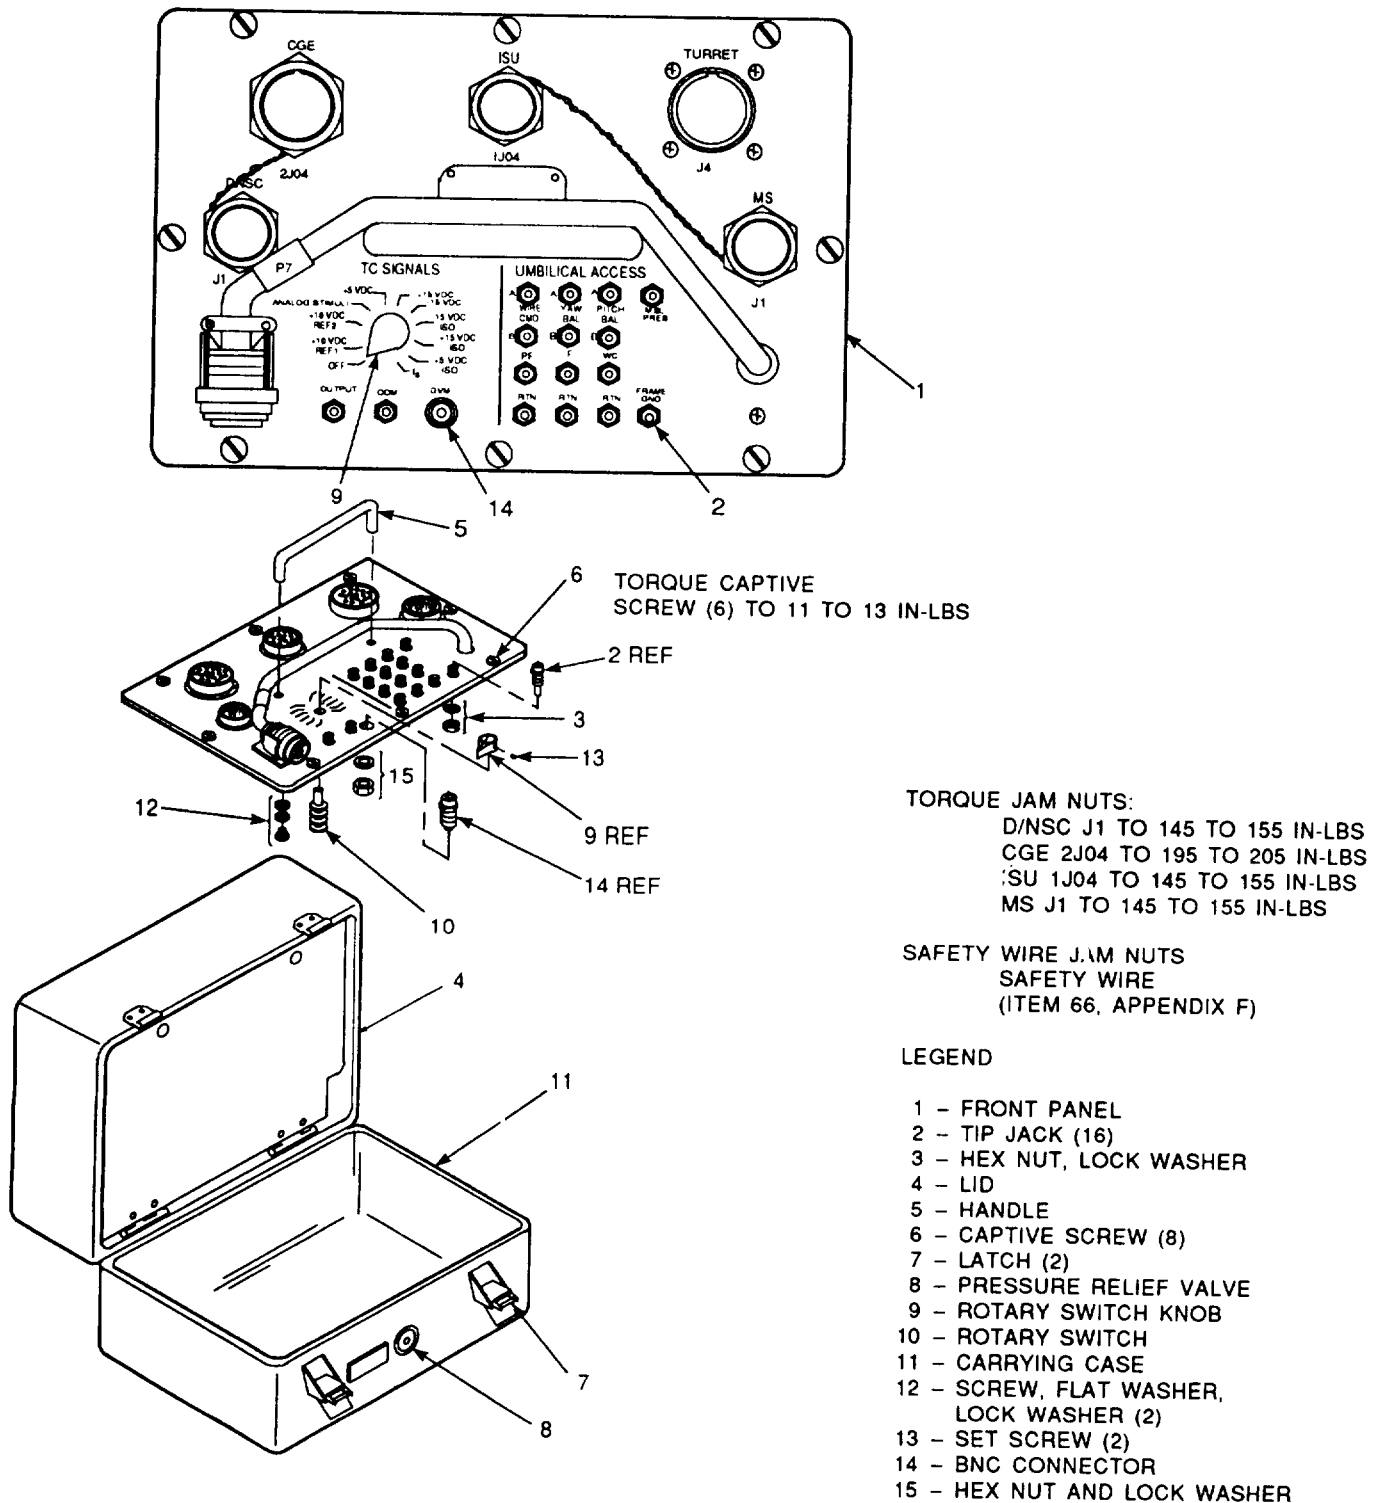

Figure 3-19. ABOB Maintenance.
**3-104. Alignment Breakout Box Maintenance.** Maintenance of the ABOB consists primarily of fault isolation of cables and front panel, and removing and replacing faulty subassemblies. For maintenance of ABOB, refer to figure 3-19. Refer to figures H-35,